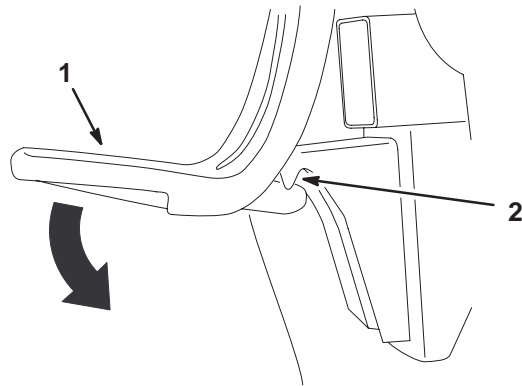

Figure 21
6. Push down on bagger latch until it locks into place (Fig. 21).
2. Unlatch the bagger latch (Fig. 21).
9. Latch the bagger hood (Fig. 21).